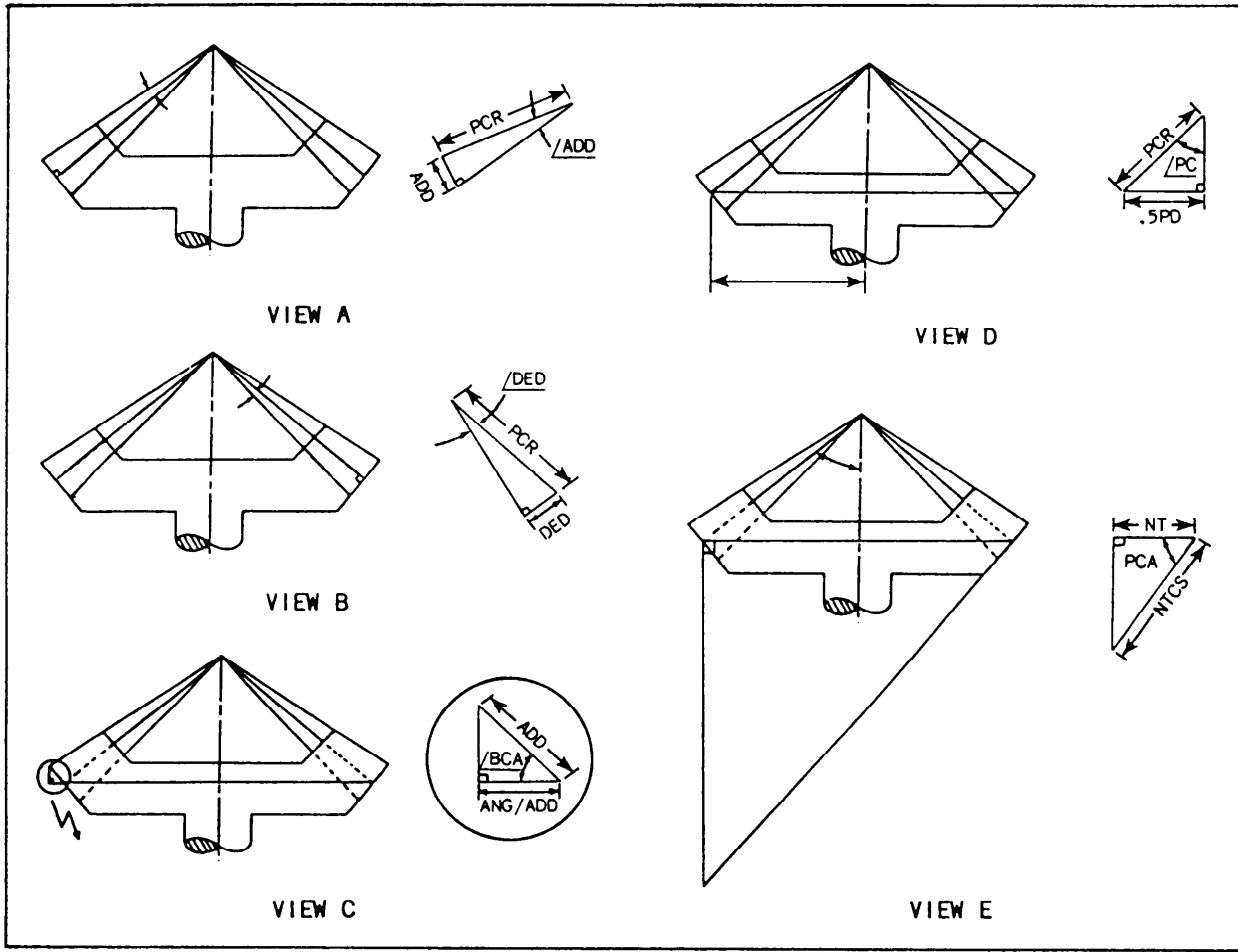

Figure 14-16.—Development of bevel gear formulas.
- In the triangle shown in figure 14-16, view A, the hypotenuse is the pitch cone radius and the side opposite is the addendum.
- In the triangle shown in figure 14-16, view B, the side opposite the dedendum angle is the dedendum and the hypotenuse is the pitch cone radius.
7. Pitch diameter (PD)—This is the diameter of the gear blank one addendum down at the large end of the gear.
8. Outside diameter (OD)
- b. In the triangle shown in figure 14-16, view C, the hypotenuse is the addendum and the side adjacent to the angle (BCA) is known as the angular addendum.
- c. In the triangle shown in figure 14-16, view D, the hypotenuse is the pitch cone radius and the side opposite the pitch cone angle ($\angle PC$) is equal to one-half the pitch diameter (0.5 PD).
- a. In the triangle shown in figure 14-16, view E, the NTCS is the hypotenuse and the side adjacent is the number of teeth of the gear.